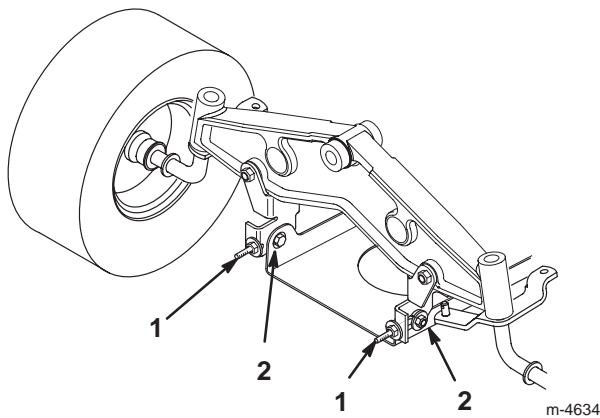

Figure 53
- To adjust the front-to-rear blade slope, loosen the front pivot plate mounting bolts slightly (Fig. 53).
- Rotate the locknuts on the eyebolts to change the adjustment (Fig. 53). To raise the front of the mower, tighten the eyebolt locknuts. To lower the front of the mower, loosen the eyebolt locknuts.
- When the front-to-rear slope is correct, tighten the pivot plate mounting bolts (Fig. 53).